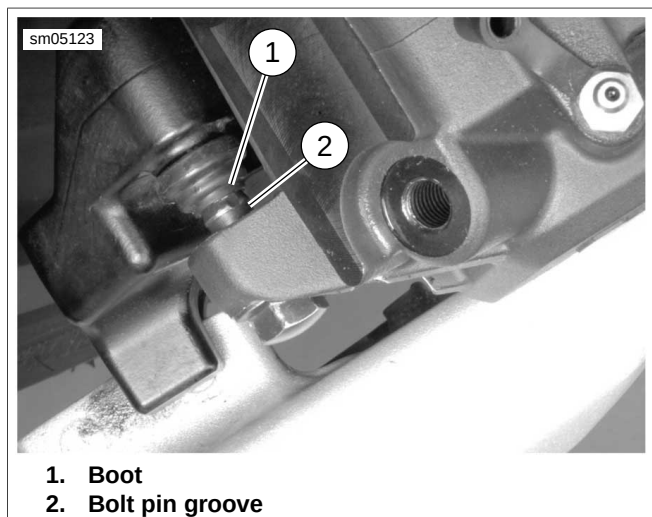

Figure 2-144. Bolt Pin and Boot
5. Place rear caliper assembly onto mounting bracket. Install bolt pin (6), being careful not to pinch or roll boot over. Tighten bolt pin to 14-18 ft-lbs (19.6-24.5 Nm). See Figure 2-144. Ensure lip of boot (1) properly engages the groove (2) in the bolt pin.